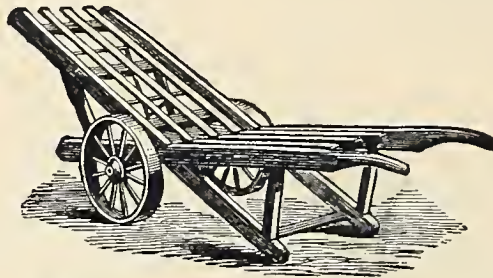

Fig. 513. — Common Baggage-Truck.
*The Common Baggage-Truck*, represented by *Fig. 513*, is used in railroad depots.